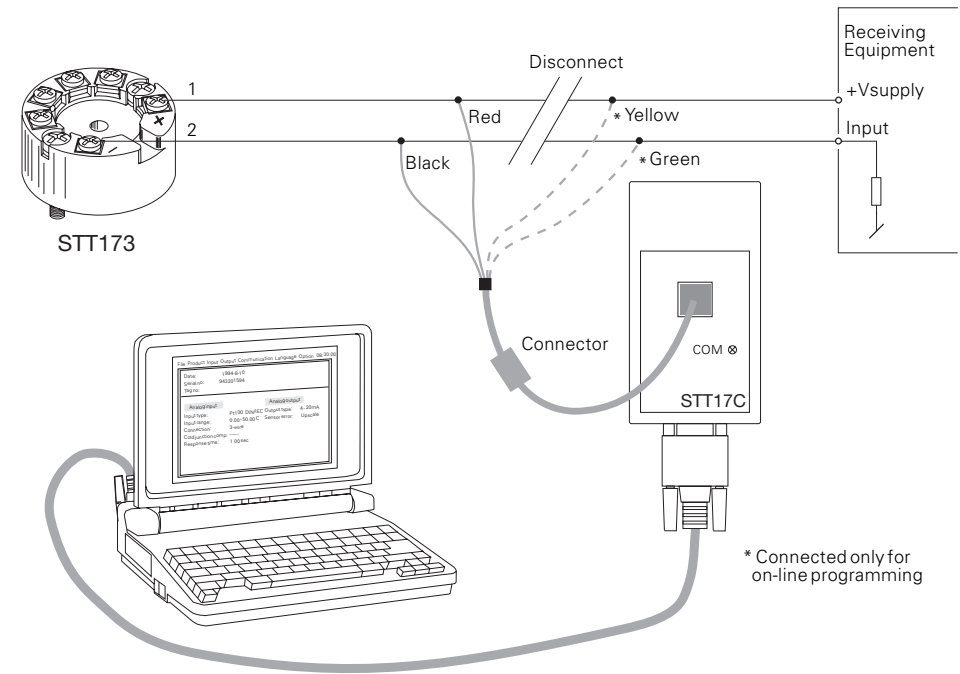

Figure 1-4 Programming
- For programming, please refer to Figure 1-4 and the help function in STT17C.